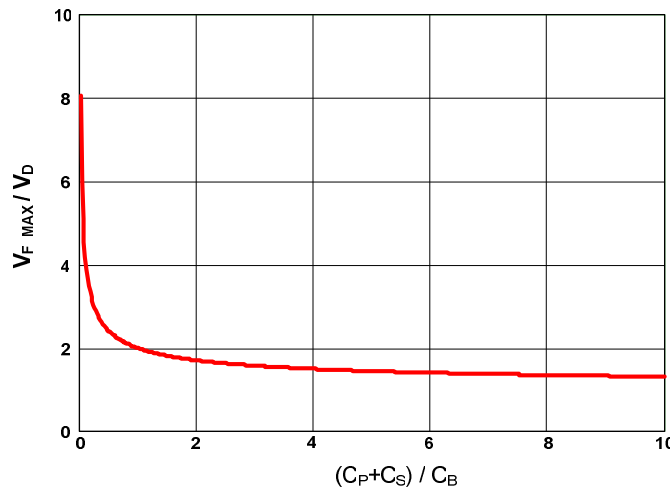

Figure 12 — C_S Value Effect on the SR FET Voltage Spike
From (6) and figure 12, we can know by designing C_S larger, the damping effect on SR FET voltage spike will be better. But in real application, considering the power loss on RC snubber in (7), C_S is not recommended to be set too large. Generally we choose C_S as 2~3 times of C_P for a fairly well damping effect.